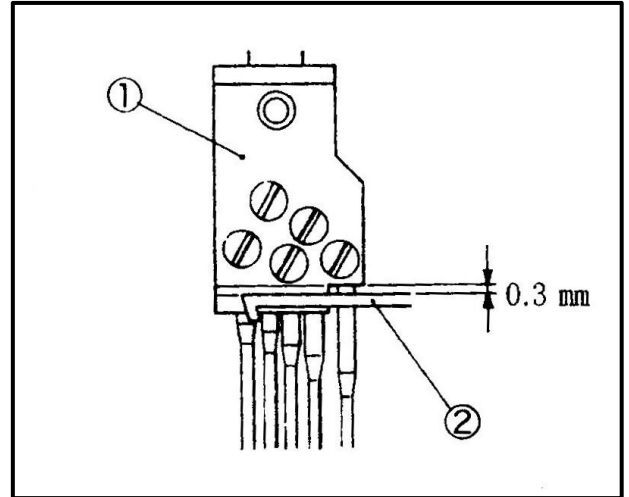

Fig.7
1. As standard , make the clearance between the notch of the needle clamp ① and the top cover thread hook ② to 0.3mm when the needle bar is at the lowest point and the presser foot is raised by pressing the presser foot pedal fully. (Fig. 7)